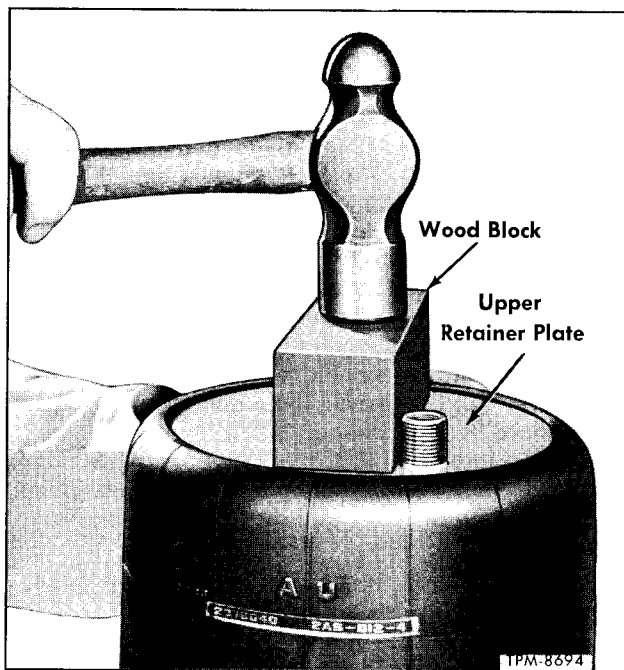

Figure 15—Loosening Retainer Plate from Bellows Bead
2. Place wood block across upper retainer, then drive with hammer (fig. 15) until retainer is loose from bellows bead.